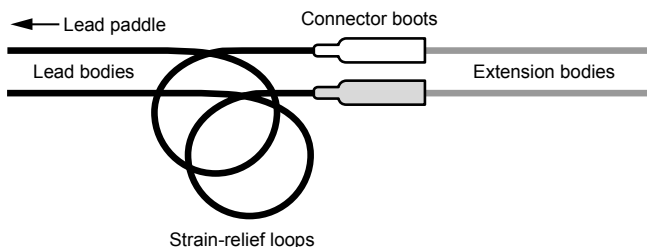

Figure 3. Strain-relief loops made with the lead bodies.
1. While maintaining lead position, create a strain-relief loop with each of the lead bodies, by coiling the lead bodies near the connector boots (Figure 3).